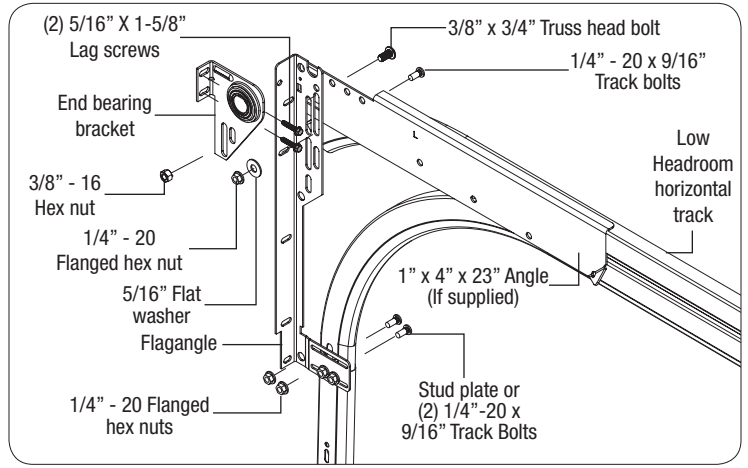

FIGURE 4.1
Place the left hand end bearing fixtures above the flagangles. Attach the fixtures to the flagangle with (1) 3/8 x 3/4" truss head bolt and nut, and to the jamb with (2) 5/16" x 1-5/8" lag bolts, as shown in FIG. 4.1 and 4.3.